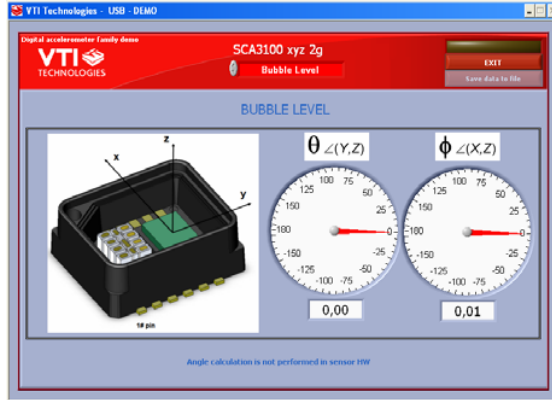

Figure 6. Bubble level display.
**BUBBLE LEVEL**, two displays that show tilt angle, see Figure 6. Angle calculation is performed in GUI, not in the accelerometer.